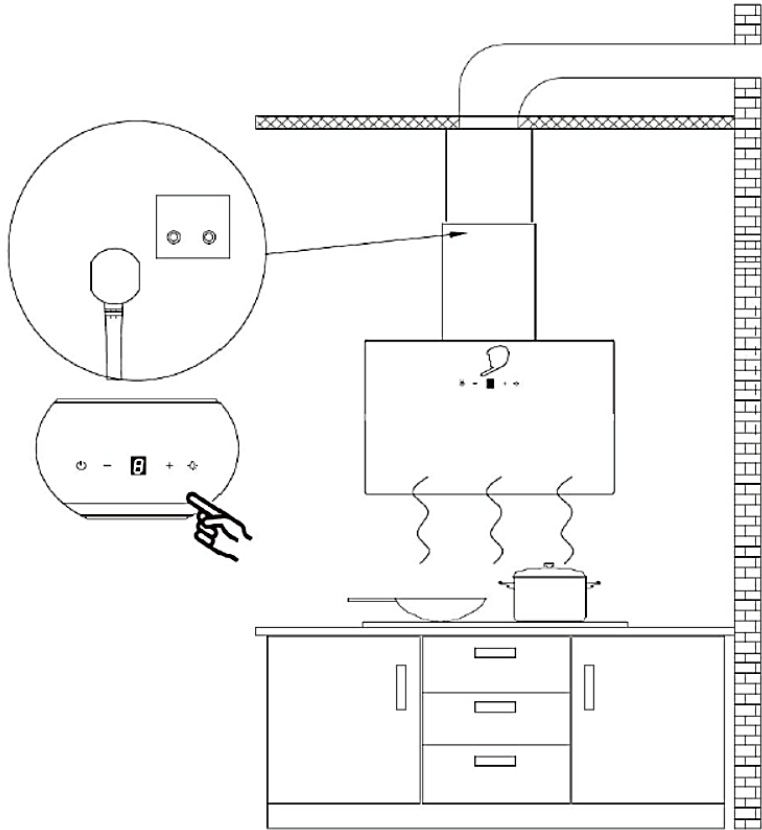

Fig. 18
17. Turn the LED lights on/off, and test whether the functions are working properly. (see Fig. 18)